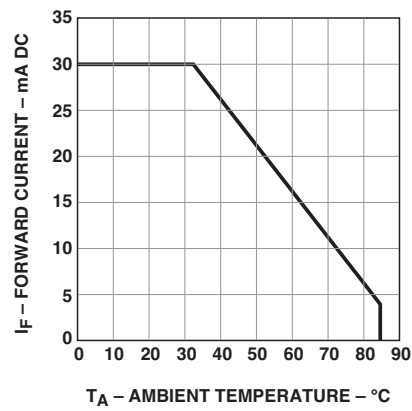

Figure 4. Maximum forward current vs. ambient temperature based on $T_J \text{ max.} = 115^\circ\text{C}$.
1. Derate linearly as shown in Figure 4.